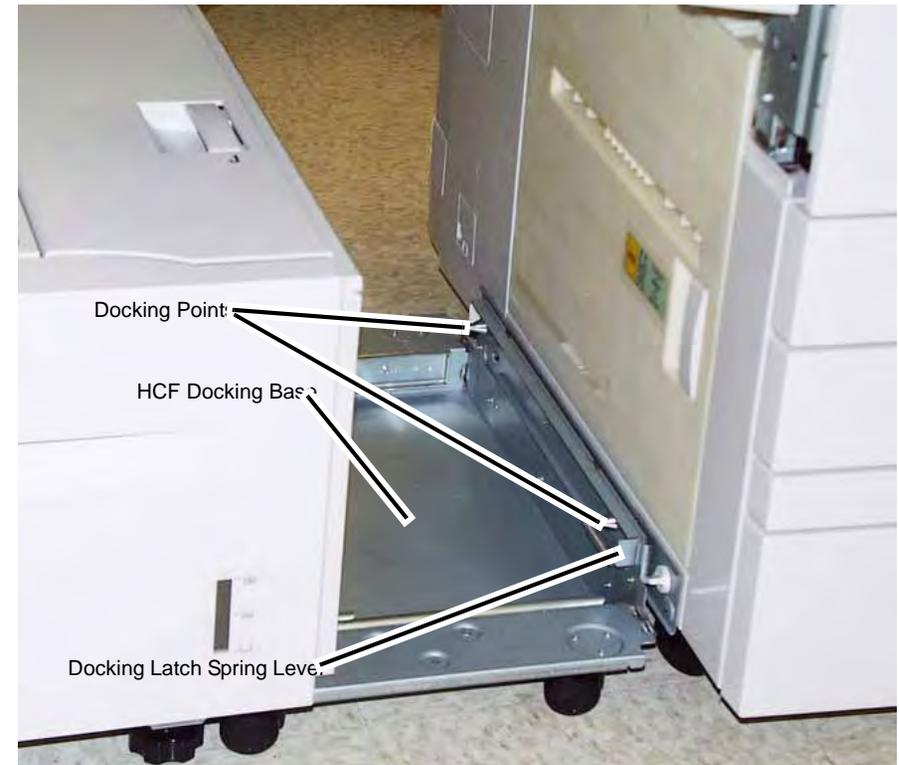

Figure 1 Exposing the docking base
3. Grasping the HCF by its upper corners, pull the HCF away from the copier/printer to expose the HCF Docking Base (Figure 1).